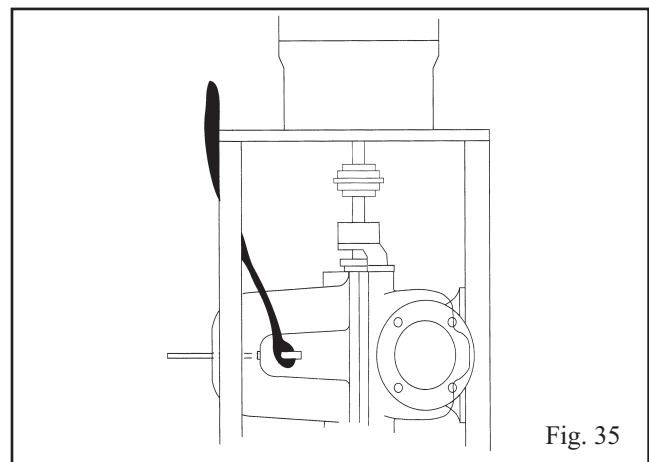

Fig. 35
5. Sling around casing upper half ears using nylon sling, pulling slings taught so it is not possible for slings to slip off (See Fig. 35).